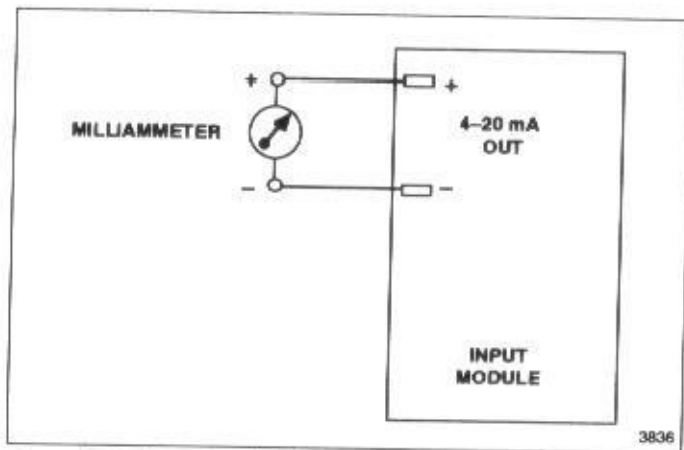
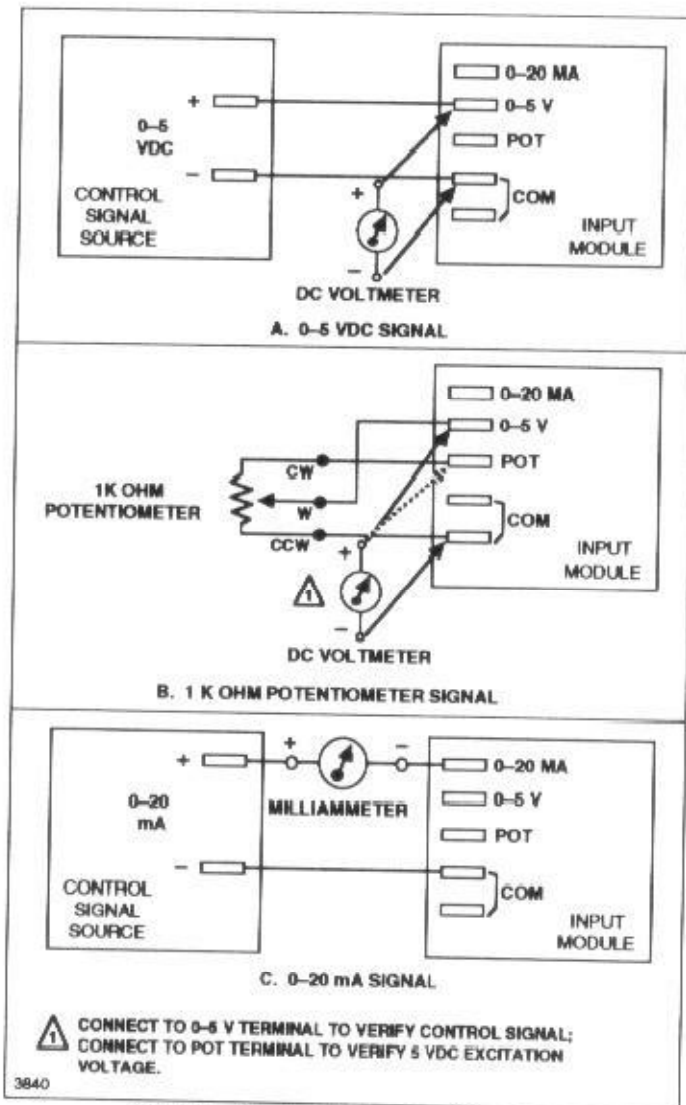

Figure 5-9. Input module 4-20 mA OUT signal verification.
Figure 5-10. Input signal verification.
4. Using a milliammeter (see figure 5-9), verify that the correct 4-20 mA output signal is produced at the input module's 4-20 mA OUT terminals when signal inputs from each of the signal input configurations shown in figure 5-10 is applied to the input terminals of the input module.